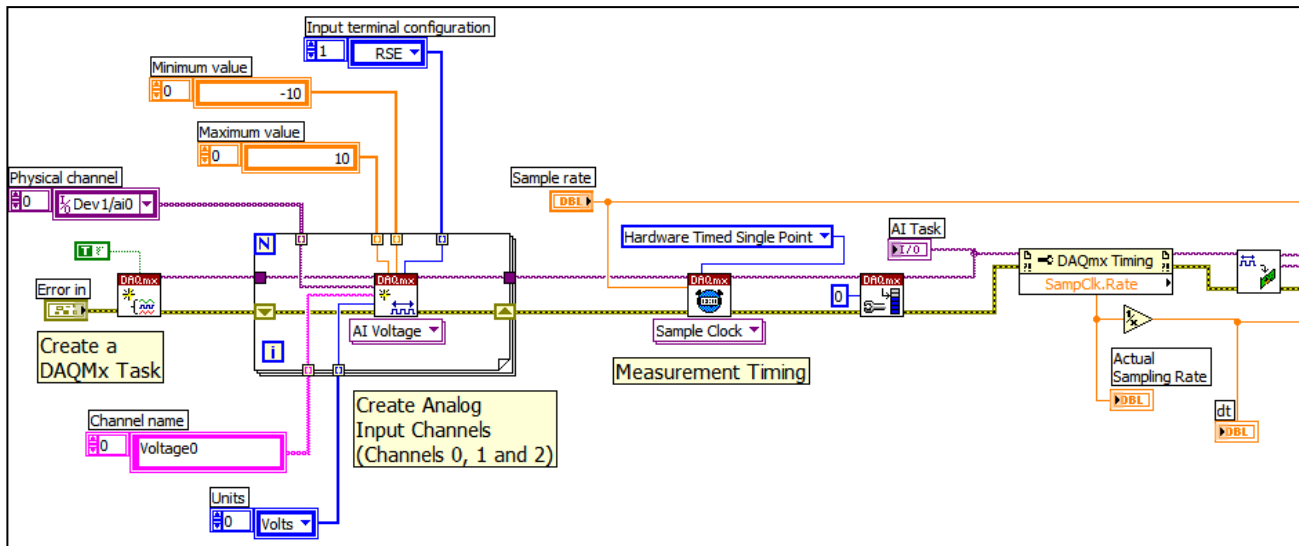

Fig. 2. Segment to Create DAQmx Task and Initialize Analog Input Channels
- The most recent form of data acquisition available in LabVIEW is called *DAQmx*. LabVIEW includes many subroutines (VI's) to support this feature. Fig 2 shows the first segment of the code that utilizes *DAQmx* VI's to create a *closed-loop control/data acquisition task* and *initializes* the analog input *channels*.